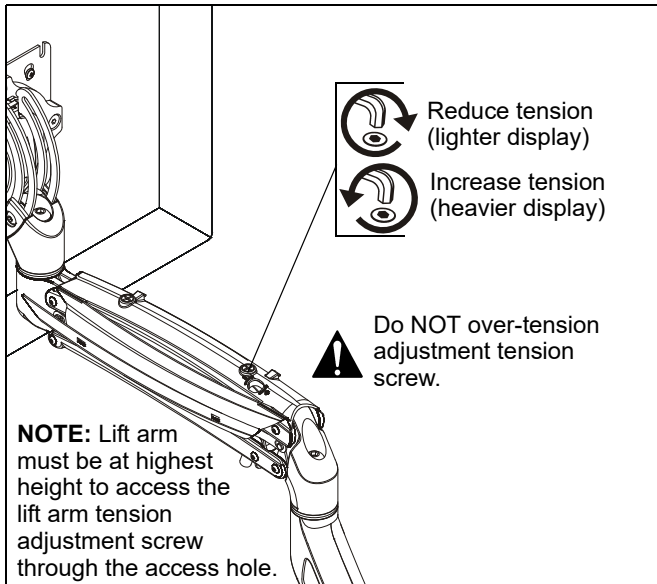

Figure 15
1. Tension may be adjusted with tension adjustment screw inside cable management cover and 1/8" hex key (L). Turn clockwise to reduce tension or counter-clockwise to increase tension. (See Figure 15)